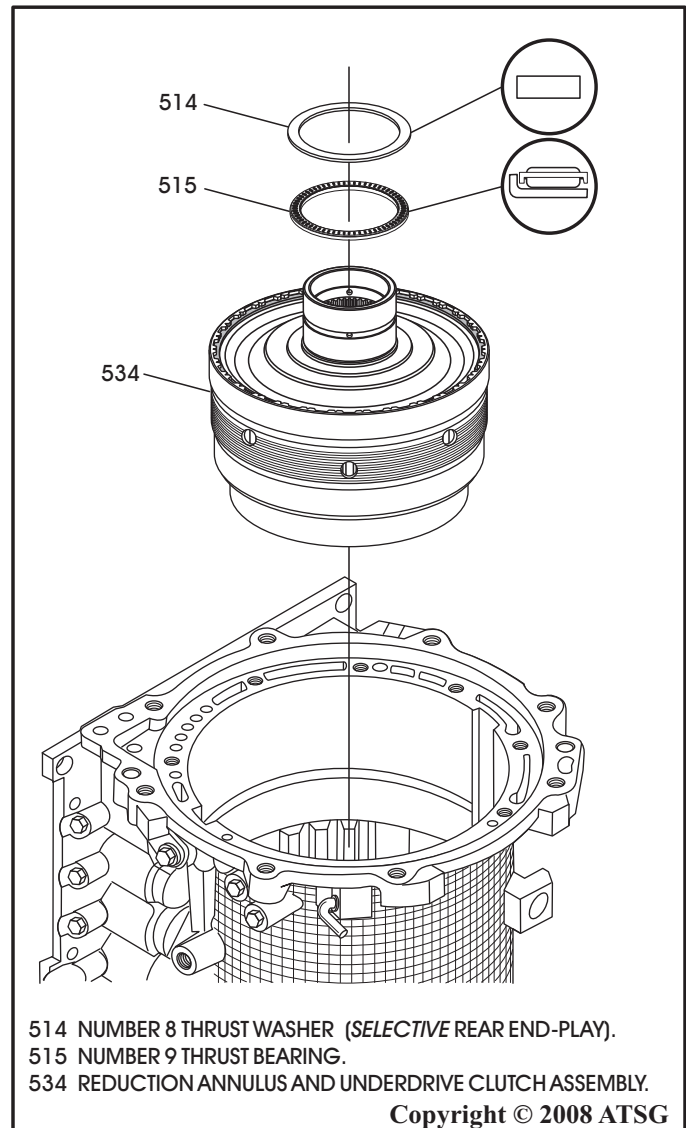

Figure 187
9. Install the completed reduction annulus and underdrive clutch assembly in case, as shown in Figure 187, by rotating back and forth to engage the ring gear onto reduction carrier.
10. Install the number 9 thrust bearing, as shown in Figure 187.
11. Install the number 8 selective thrust washer, as shown in Figure 187.